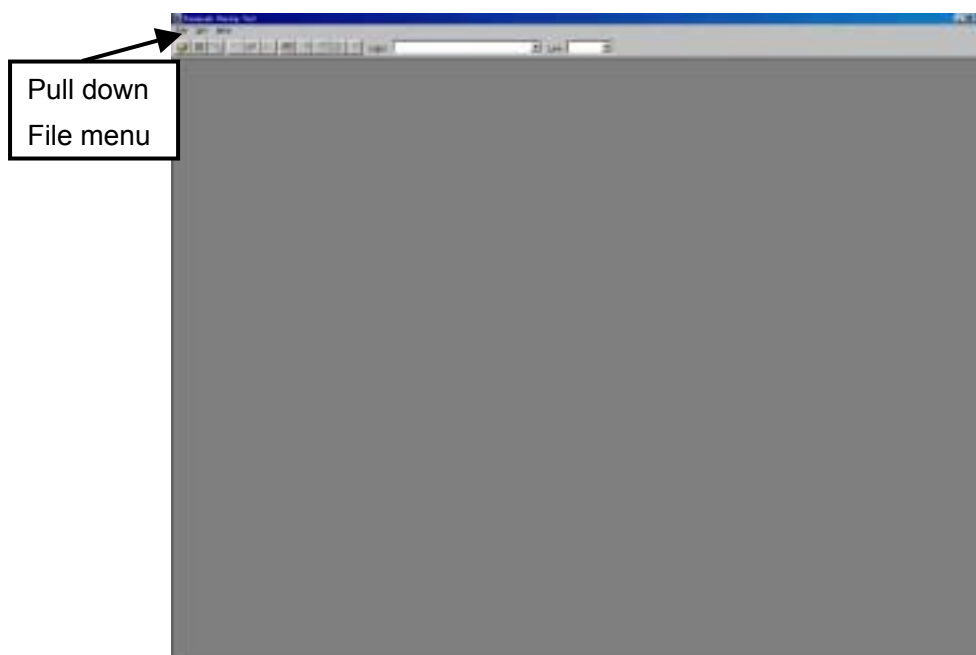

Fig. 16 Initial Screen
(3) The initial screen shown in Fig. 16 appears.